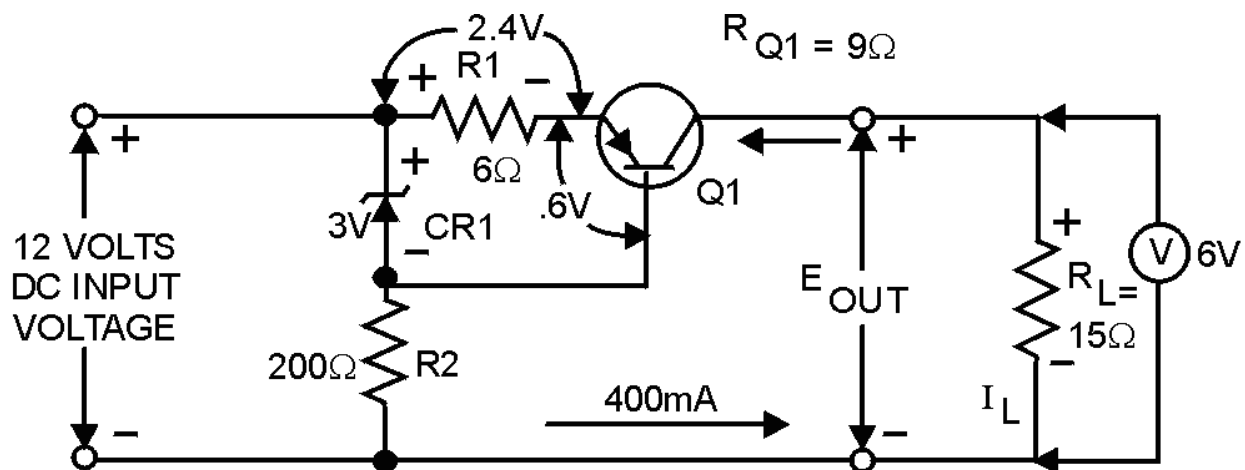

Figure 4-42.—Current regulator (with circuit values).
The purpose of a current regulator is to provide a constant current regardless of changes in the input voltage or load current. The schematic shown in figure 4-42 is that of a circuit designed to provide a constant current of 400 milliamperes. Voltmeters are shown in the schematic to emphasize the voltage drops across specific components. These voltages will help you understand how the current regulator operates. The voltage drop across the base-emitter junction of Q1 is 0.6 volt. This voltage is the difference between the Zener voltage and the voltage drop across R1. The 0.6-volt forward bias of Q1 permits proper operation of the transistor. The output voltage across  $R_L$  is 6 volts as shown by the voltmeter. With a regulated current output of 400 milliamperes, the transistor resistance ( $R_{Q1}$ ) is 9 ohms. This can be proved by using Ohm's law and the values shown on the schematic. In this case, current (I) is equal to the voltage drop (E) divided by the resistance (R). Therefore: 12 volts divided by 30 ohms equals 0.4 ampere, or 400 milliamperes.